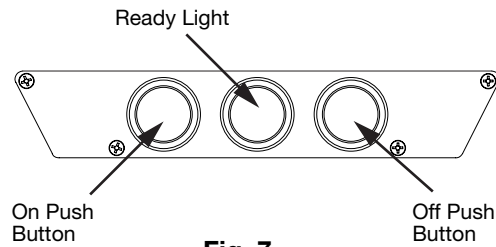

Fig. 7
- **“On” Button (Fig 7)** This push button switch is colored green and turns the entire machine “on.”
- **Ready Light (Fig 7)** This white indicator light allows the operator to visually see when the machine is ready to use. It will not illuminate if the following conditions exist: agitator or main circuit breaker is tripped or is not depressed in the “on” position, GFCI is tripped or electrical power is not present at the electrical inlet of the machine.
- **“Off” Button (Fig 7)** This push button switch is colored red and turns the entire machine “off.” This switch also can be used in an emergency and overrides the wireless remote.